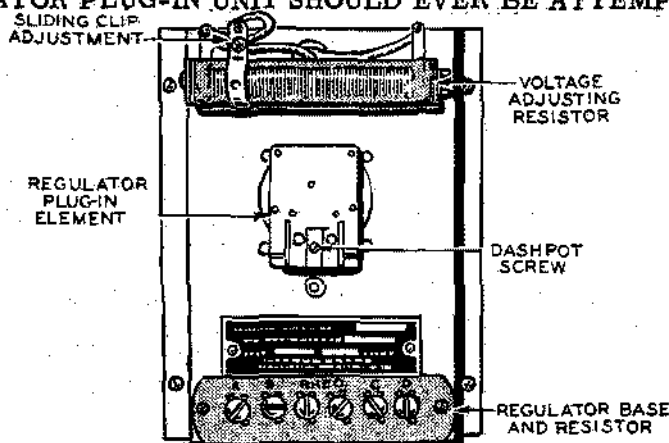

FIG. 21. REGOHM VOLTAGE REGULATOR ADJUSTMENT
6. Set the adjustable resistor, which is mounted either separately or on the regulator base (see Figure 21.), to obtain the rated AC voltage. Very little movement of the sliding clip will be necessary. Be sure to retighten the clip after the adjustment is completed.
REGOHM VOLTAGE REGULATOR DASHPOT ADJUSTMENT. - If a hunting voltage condition exists, after the Governor has been adjusted, the voltage regulator dashpot must be adjusted. See Figure 21. To adjust the voltage regulator dashpot, proceed as follows: